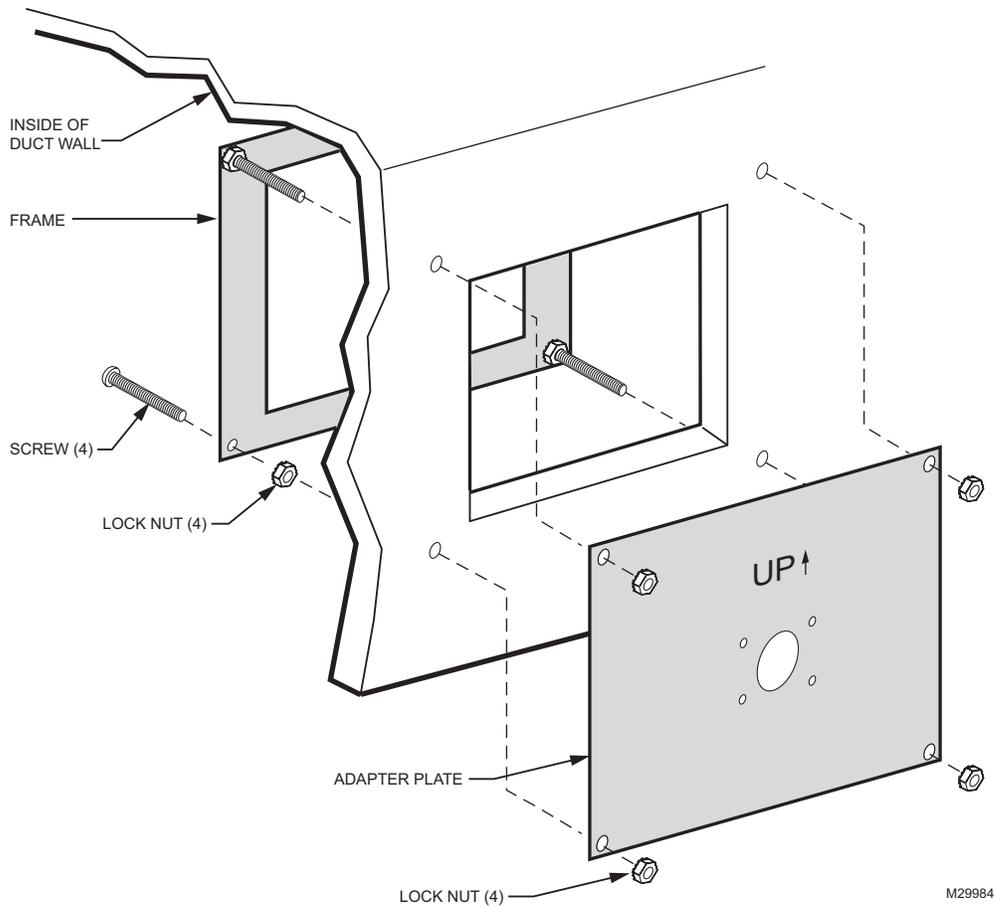

Fig. 1. Attaching the frame and adapter plate to the duct board.
3. Locate the frame and insert the four screws (supplied) into the holes on the back side of the frame. (See Fig.1.)
PARTS LIST (SEE FIG. 1)
The Duct Board Adapter Kit contains a frame, two adapter plates, four screws and eight locknuts. See Fig. 1.